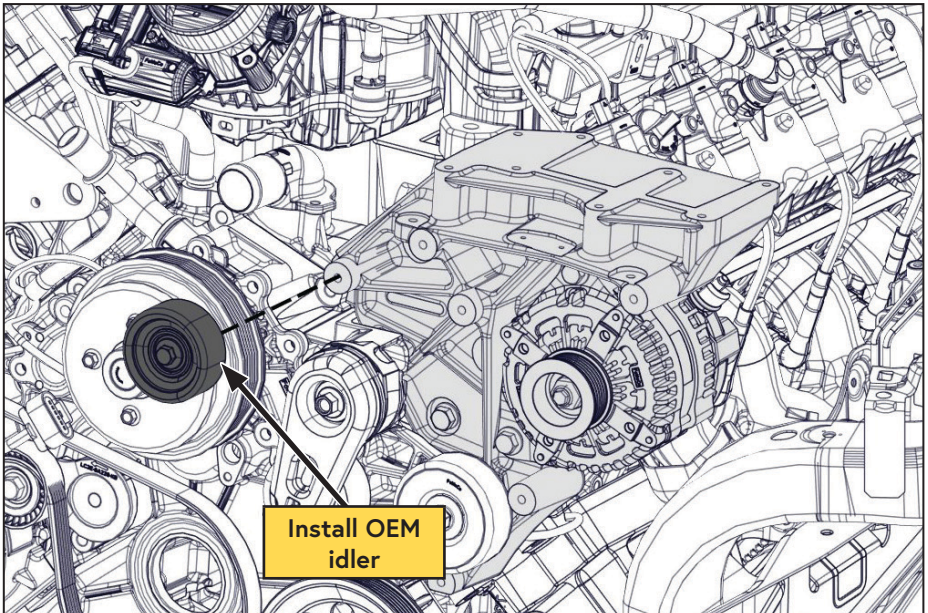

Figure 31 — Install OEM idler
- Install the OEM idler onto the VMAC main bracket (Figure 31).